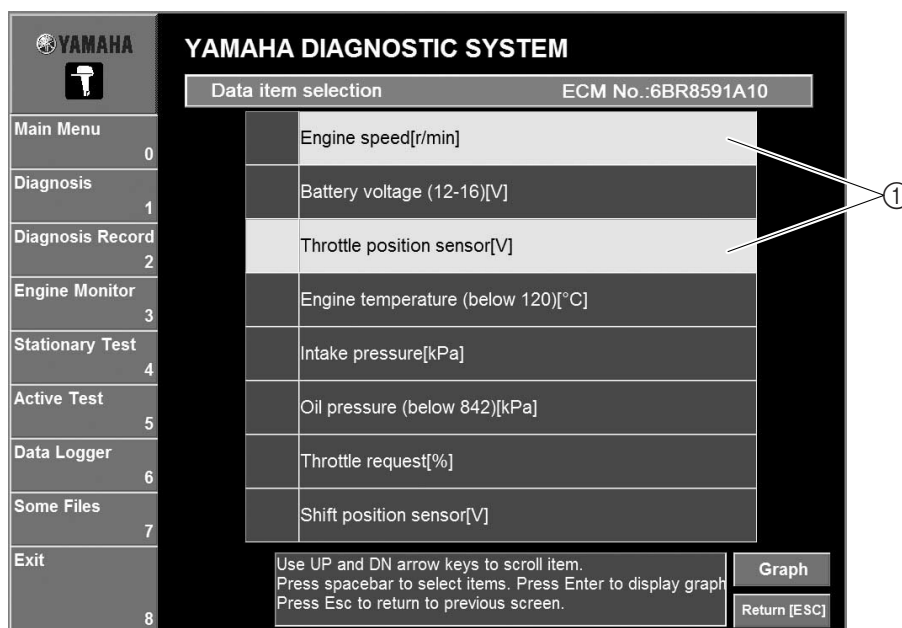

Fig. 115
3. Click the **Graph** button or press the Enter key on your keyboard. (See fig. 115.) The **Data comparison graph** window is displayed.